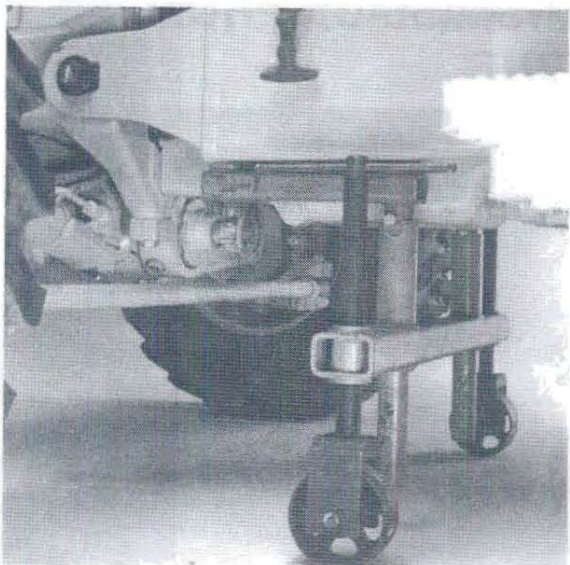

FIGURE 10-27
7. Install an engine splitting stand (Part #F50817) under the engine, Figure 10-27.